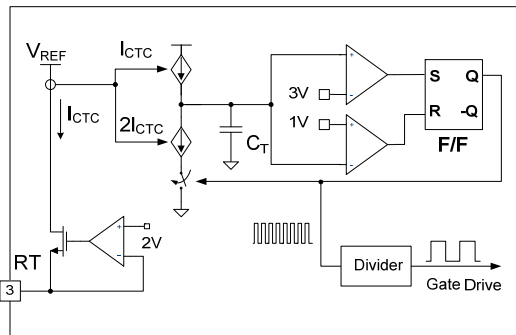

Figure 19. Current-Controlled Oscillator
2. Internal Oscillator: FSFR-HS series employs a current-controlled oscillator, as shown in Figure 19. Internally, the voltage of the RT pin is regulated at 2V and the charging / discharging current for the oscillator capacitor, C_T , is obtained by copying the current flowing out of the RT pin (I_{CTC}) using a current mirror. Therefore, the switching frequency increases as I_{CTC} increases.